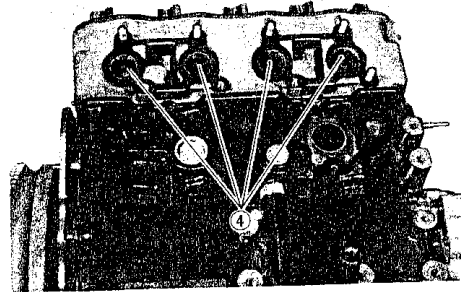

Fig. 3-126
The position the cylinder head takes on the block is but one, which is shown in Fig. 3-126. When placing the head on the block, be sure that it is correctly oriented; It is the clue that the inlet ports ④ should be at the same side of the gasket marked "IN".